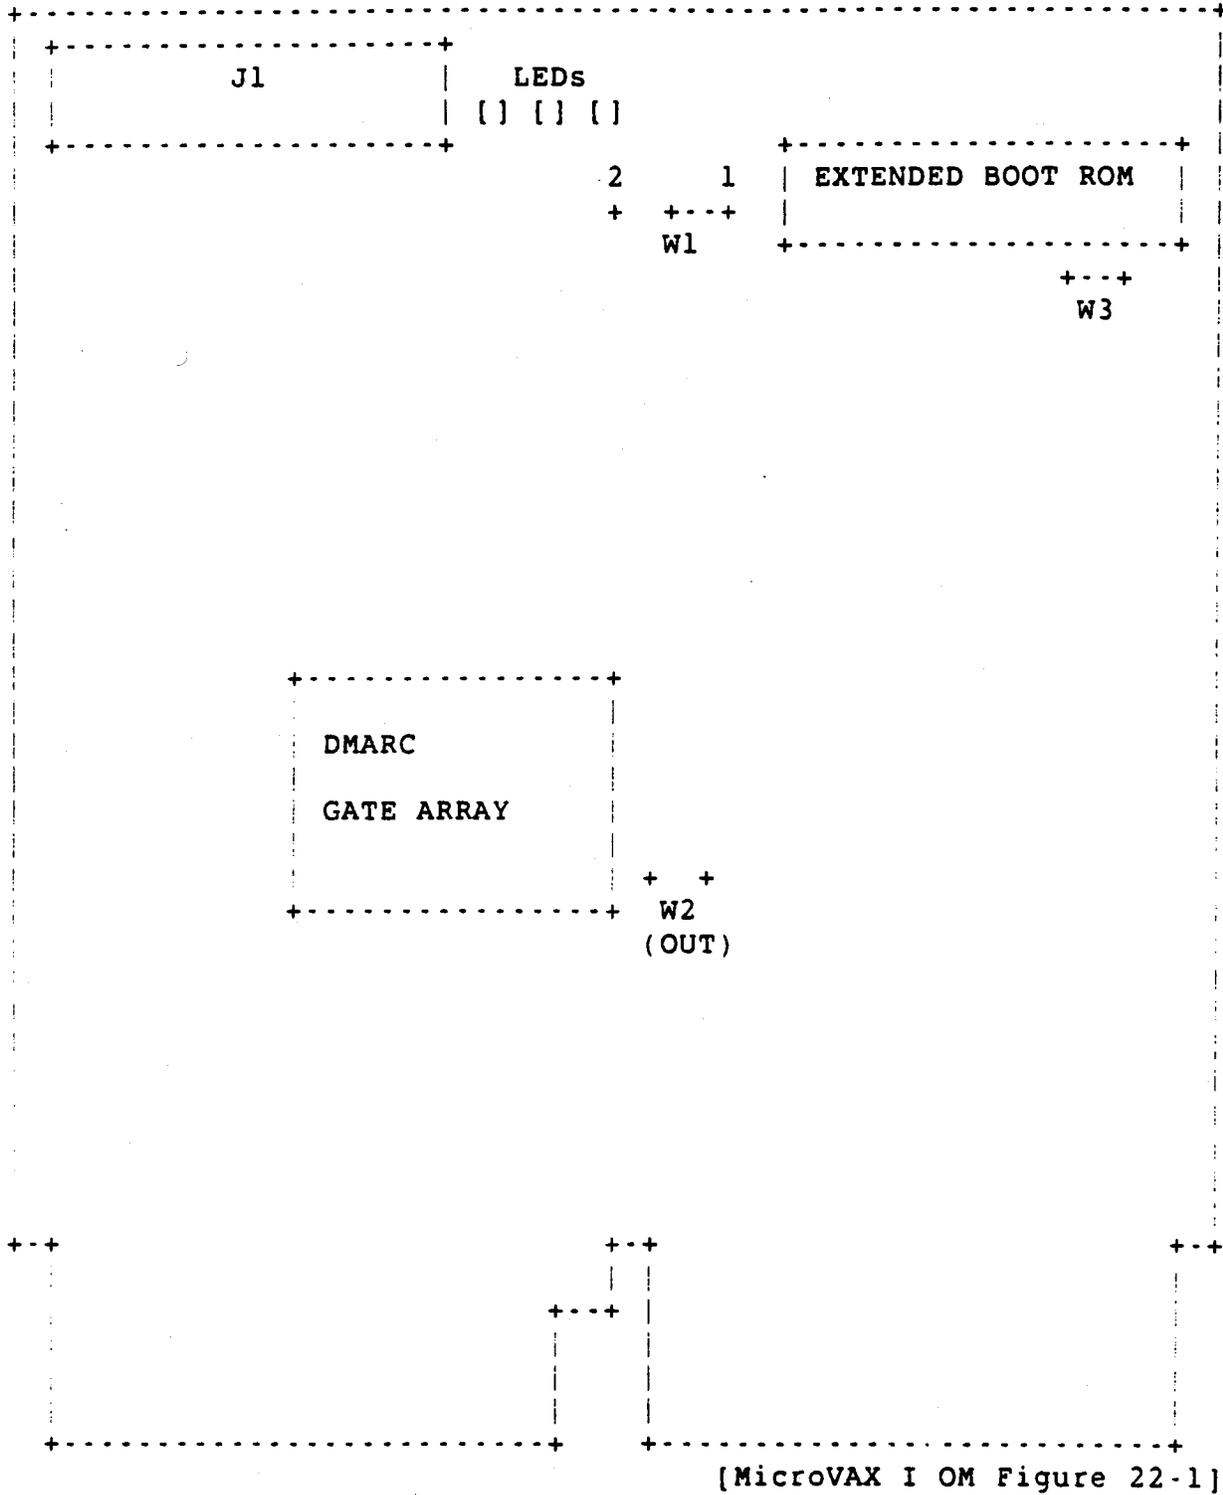

Figure 1-8: DEQNA Jumpers
The DEQNA (Figure 1-8) module (Part Number M7504) communicates with the Ethernet through an H4000 Ethernet Transceiver and Cable Tap. A Transceiver Cable connects the H4000 to the DEQNA insert in the Patch and Filter Panel Assembly.
1.7.1.1 Jumpers - Figure 1-8 shows the three DEQNA jumpers: